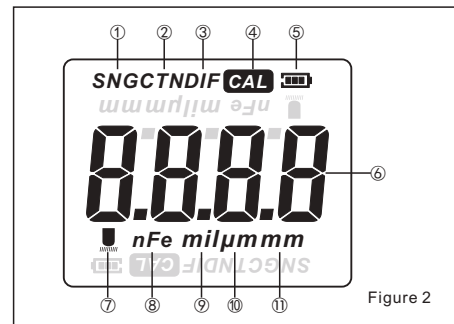

Figure 2
2.LCD display(Figure 2)
- ① SNG : Single measurement
- ② CTN : Continuous measurement
- ③ DIF : Differential measurement
- ④ CAL : Enter calibration state
- ⑤ [] : Remaining battery power
- ⑥ Indicates the measured value
- ⑦ [] : Coupling icon.
- ⑧ nFe: Icon for non-magnetic metal substrate;
- ⑨ Fe: Icon for magnetic metal substrate.
- ⑩ mil : An imperial unit (1mil= 0.0254mm=25.4µm)